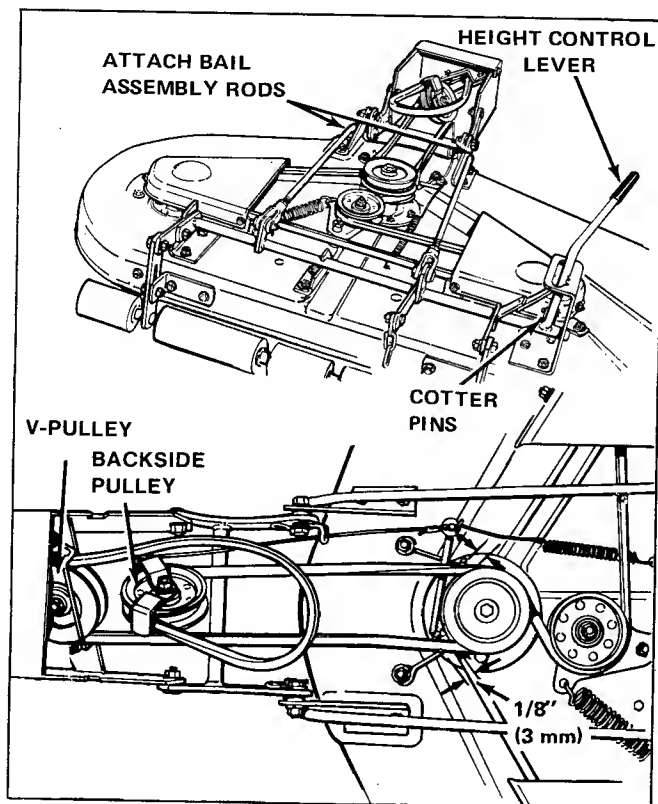

Figure 52. 42" Mower Assembly
7. When shipped, the 42 inch mower front hitch is not connected to the bail assembly rods. Pivot the front hitch forward, and insert the bail assembly rods into the holes in the sides of the front hitch. Insert the cotter pins through the rods and spread the cotter pins (see figure 52). Check to be sure belt is installed on hitch pulleys as shown in figure 52.